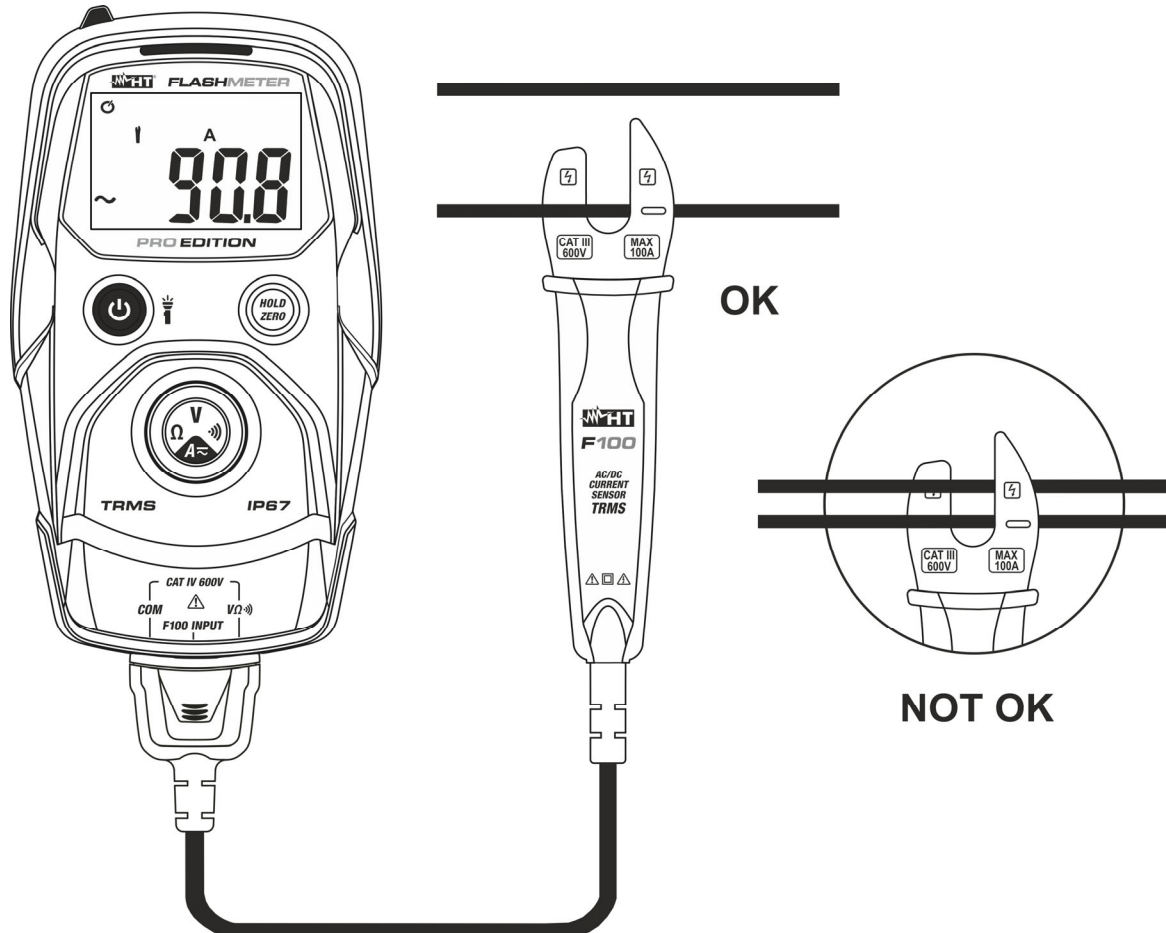

Fig. 7: Use of the instrument for AC/DC Current measurement
4. Connect the F100 clamp on the cable under test (see Fig. 7) paying attention to the arrow " \rightarrow " symbol inside the toroid to indicate the positive direction of the current. Positioning the cable in the center of the clamp to obtain an accurate measurement result. The current value is shown on the display
5. When symbol "-" appears on the instrument's display, it means that current has the opposite direction with respect to the connection of Fig. 7